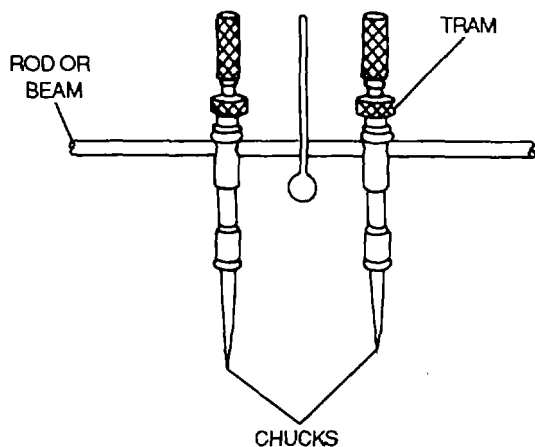

Figure 3-30. Trammel
(7) *Trammels.* The trammel, shown in figure 3-30, measures distances beyond the range of calipers. The instrument consists of a rod or beam to which trams are clamped. The trams carry chucks. The trammel can also be used as a divider by changing the points.